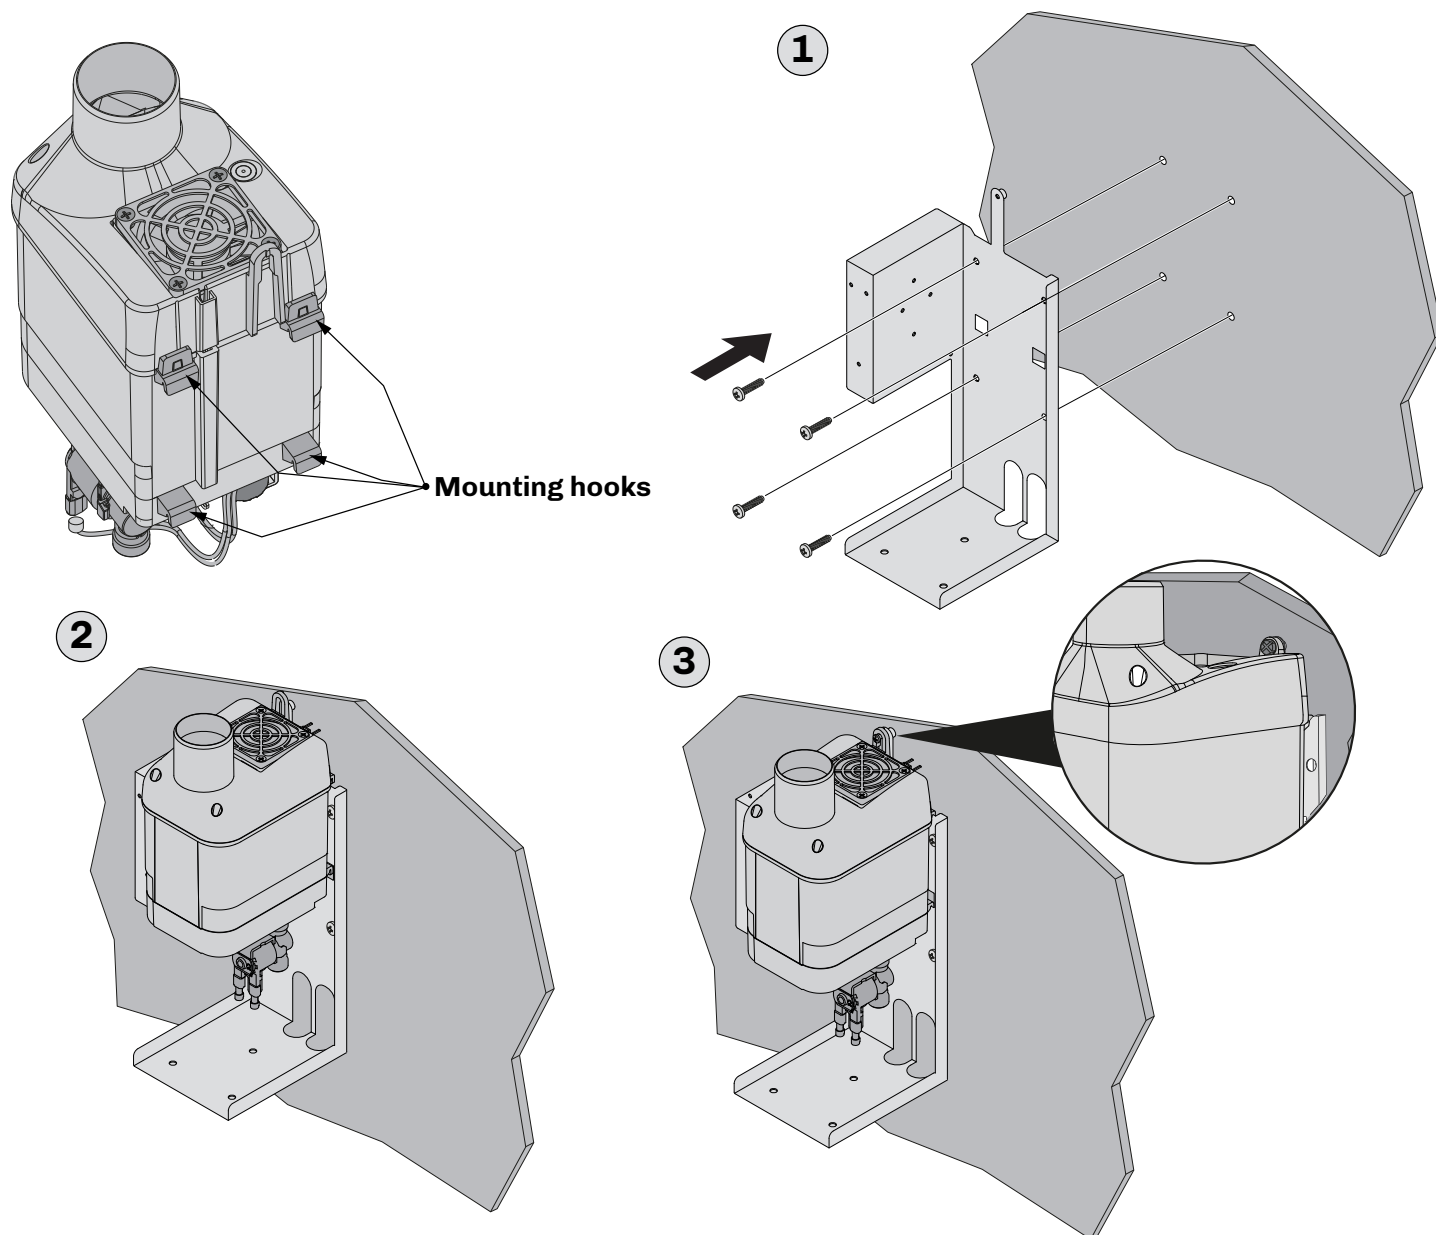

Fig. 9. Instructions for mounting the box on a wall
- Secure the box to the wall following the instructions given in the picture "**FIG. 9. INSTRUCTIONS FOR MOUNTING THE BOX ON A WALL**" ON PAGE 21 and the dimensions of the holes and box given in the subsection "**4.3.2 DIMENSIONS OF MISTRAL WITH BOX**" ON PAGE 15 (1);
- Attach the **Mistral** humidifier to the box, making sure it is secure (2);
- Secure the humidifier to the wall where it is mounted using an M4 flat-head screw, which is appropriate for the fixing wall (3).